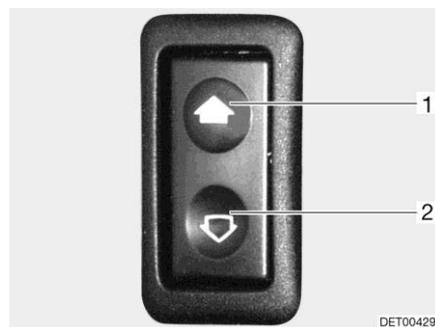

Fig. 38 Switch for electrical window winder
- Press the lower part (Fig. 38,2) of the switch.
- Press the upper part (Fig. 38,1) of the switch.